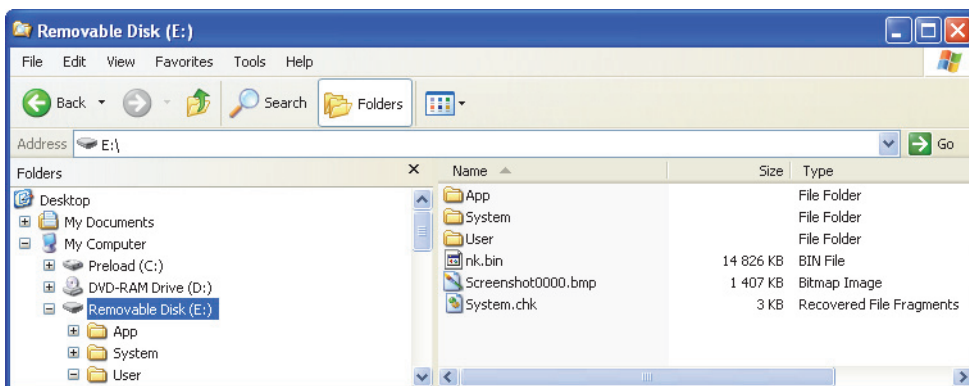

Figure 4-29 Pasting the User folder to the storage card
- b) Select the root folder of the storage card [**Removable Disk (E:)** in the example seen in Figure 4-29 on page 103].
- c) Right-click the **User** folder of the root folder [**Removable Disk (E:)** in the example seen in Figure 4-29 on page 103], and then click **Paste** on the shortcut menu that appears.